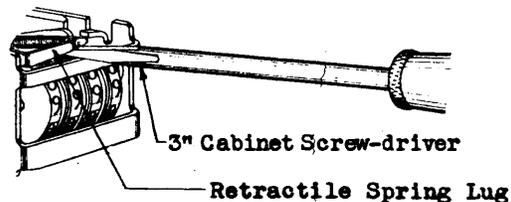

Fig. 17 – Method of Adjusting Retractable Spring Lug Upward
(2) To move the lug upward, insert the 3-inch cabinet screwdriver between the lug and the cross piece of the cyclometer frame and pry it upward as shown in Fig. 17.